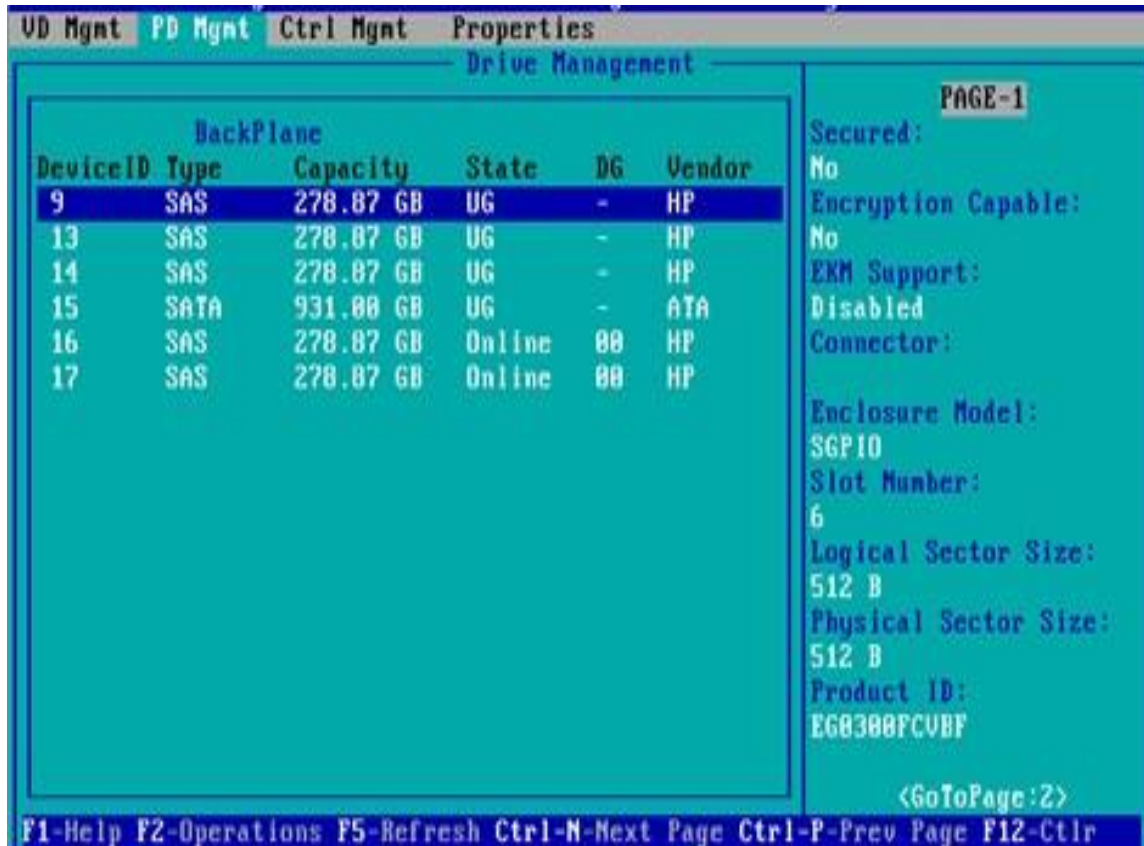

Figure 6-92
- a) As shown in figure 6-92, select the disk to be configured as a global hot spare in the PD MGMT interface, and press F2.